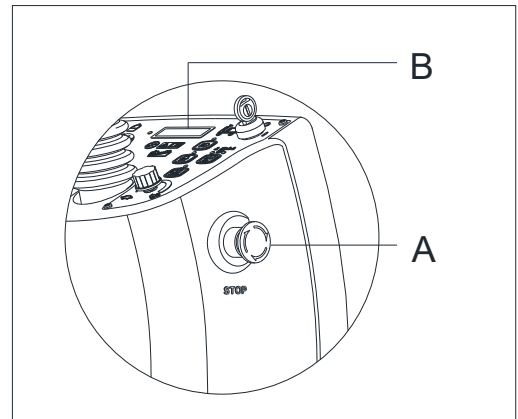

Figure 7
3. Press One-Start button (38 as Figure 2) on control panel, lift the brushes (9 as Figure 2) up from the floor, then press brush release button (40 as Figure 2) to release brushes automatically. Rotary in the opposite direction (D as Figure 7) can manually disassemble the brush/pad holder.